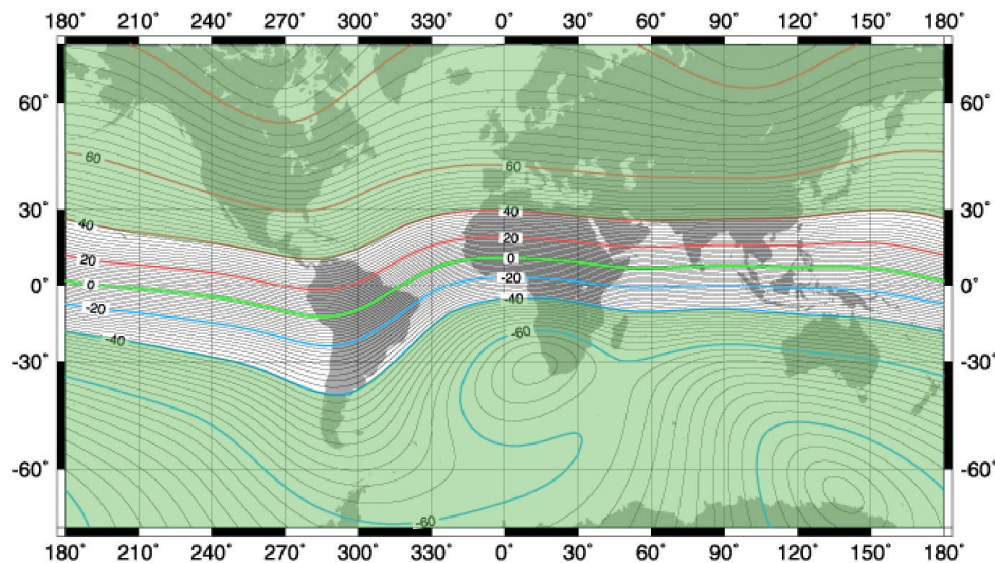
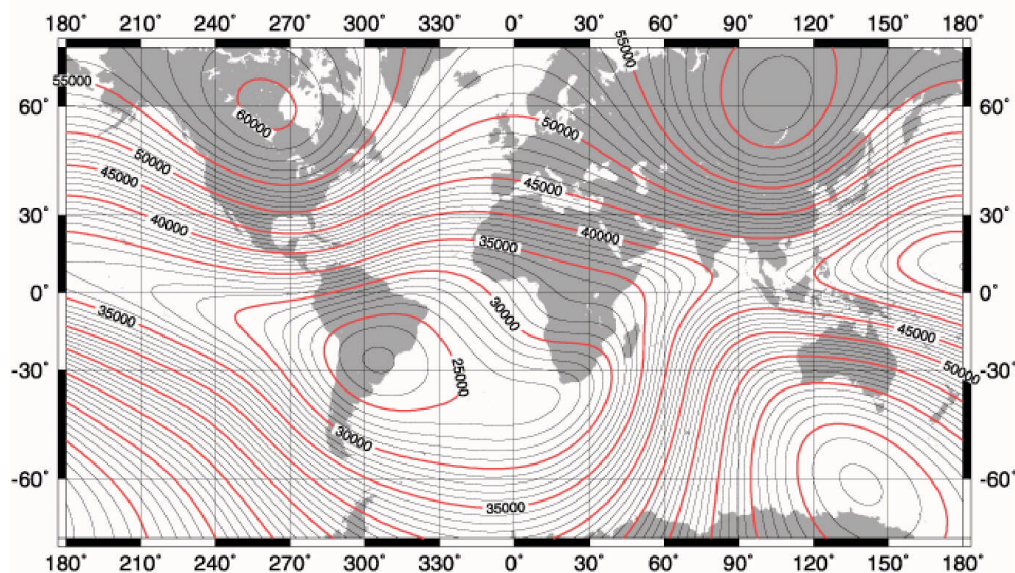

Figure 18. Magnetic Inclination of the Earth's field.
Figure 20. Magnetic Field Intensity Variation, (nT)
The G-856AX staff can be positioned horizontally or vertically when taking a measurement. If the staff is held vertically then the sensor should be attached as show in Figure 18. If, on the other hand, the staff is held horizontally during measurement, the mounting points should be reversed. That is, the sensor should be attached at the saddle mount in regions of high inclination and end mounted in low inclination regions.
Figure 18 is a map showing worldwide variation of the magnetic inclination. When used in the green-shaded regions shown in Figure 20, the sensor's cylindrical axis should be oriented vertically. Outside of this green region the sensor should be mounted so that is cylindrical axis is horizontal.
Usually, fairly accurate readings can be obtained if the magnetometer is tuned to be within 3,000 nT of the local magnetic field strength. The approximate magnetic field in your survey area can be obtained by examining the world magnetic map provided in Figure 20 and in the Appendix of this document. This world map is overlain with contour lines showing the regional variation of magnetic field strength with position. Simply find your position on the map and read the field strength on the nearest contour line.
- 1 Use the world magnetic map (Figure 20) to determine the approximate field strength for your location.